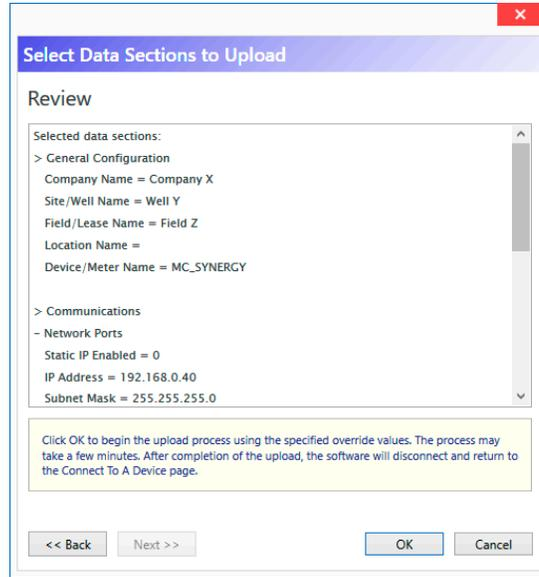

Figure 10.4—Review summary for verification before upload is executed
4. Verify your selections in the final Review summary and click OK to execute the upload (Figure 10.4, page 88).